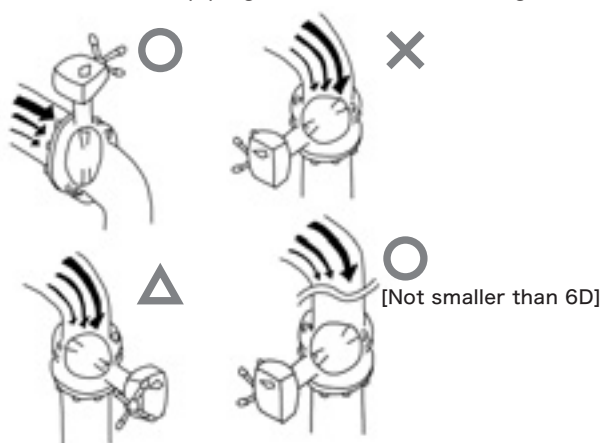

Fig. 1.
- (1) Remove the dustproof seal covering the connecting ends of main body and check for no stain inside and no adhesion of foreign substances. Also, confirm the cleanliness and the absence of foreign substances in the pipeline on which the valve is to be installed, and conduct gas blowing or liquid flushing as necessary.
- (2) Be sure to install a valve between flanges.
- (3) C201R valves have a direction. Install pipes in accordance with the indication on the main body. KM200 valves do not have an indication on the main body, but the valve stem side shall be on the primary side if the fluid is steam or the fluid speed is not lower than 3 m/s. Further, pay attention on the mounting direction of valve stem in the piping conditions shown in Fig. 1.